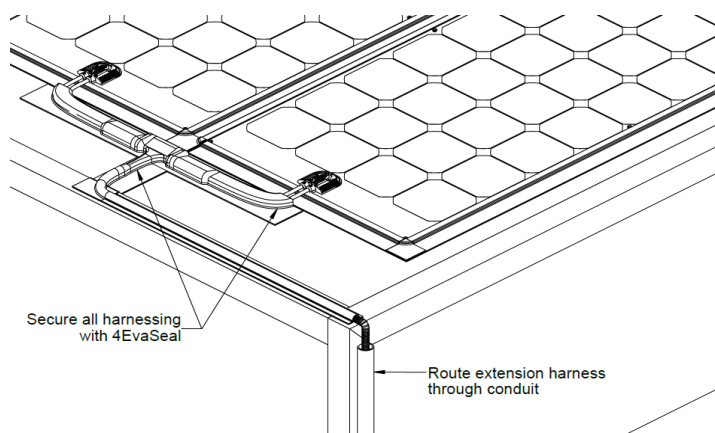

FIGURE 4
9. Route the harness down the trailer to the liftgate batteries. If available, use an existing conduit or channel. (Figure 4)